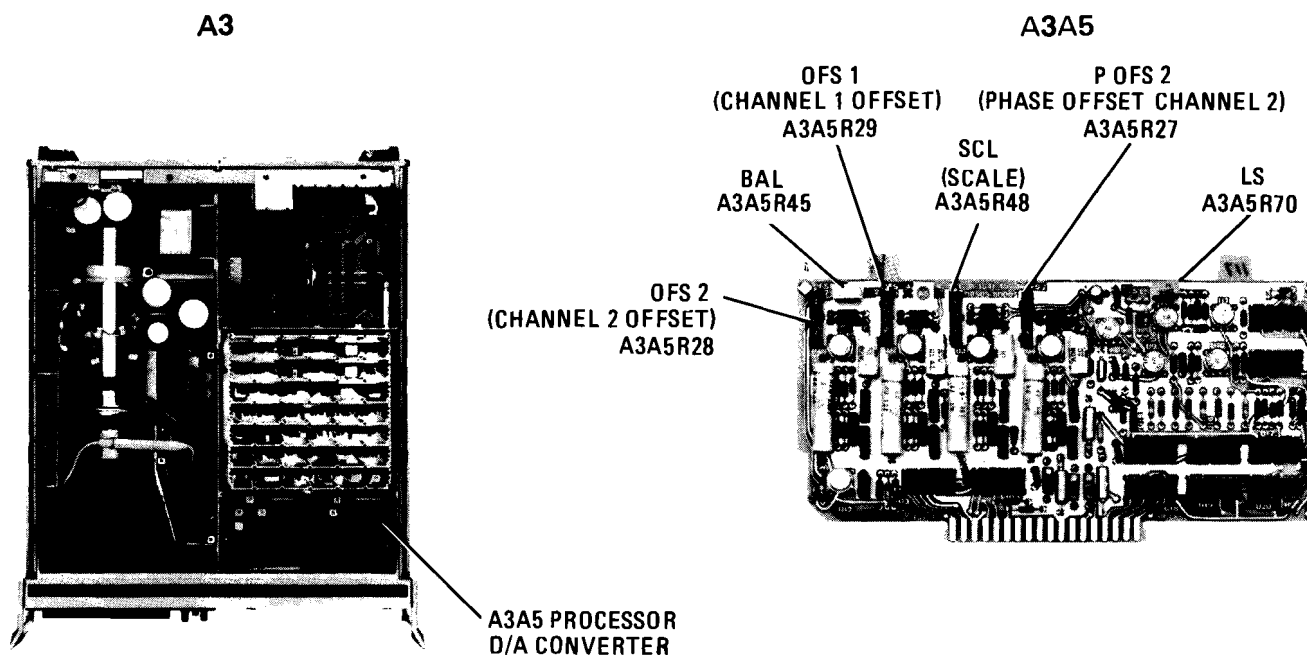

Figure A5-18. A3A5 Processor Digital-To-Analog Converter Adjustment Locations
- d. Connect Digital Voltmeter (DVM) to A3A5TP4 and ground to A3A5TP3 and adjust "OFS 1" (Channel 1 offset) control A3A5R29 for $0.000 \text{ Vdc} \pm 0.001 \text{ Vdc}$. (See Figure A5-18.)